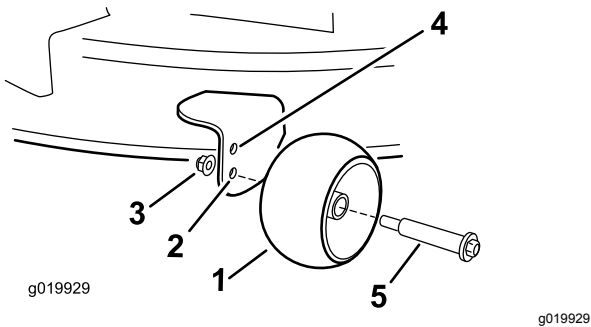

Figure 32
- Upper hole—use this position with the mower deck in the 63 mm (2-1/2 inches) and below the height-of-cut positions (Figure 32).
- Lower hole—use this position with the mower deck in the 76 mm (3 inches) and above the height-of-cut positions (Figure 32).